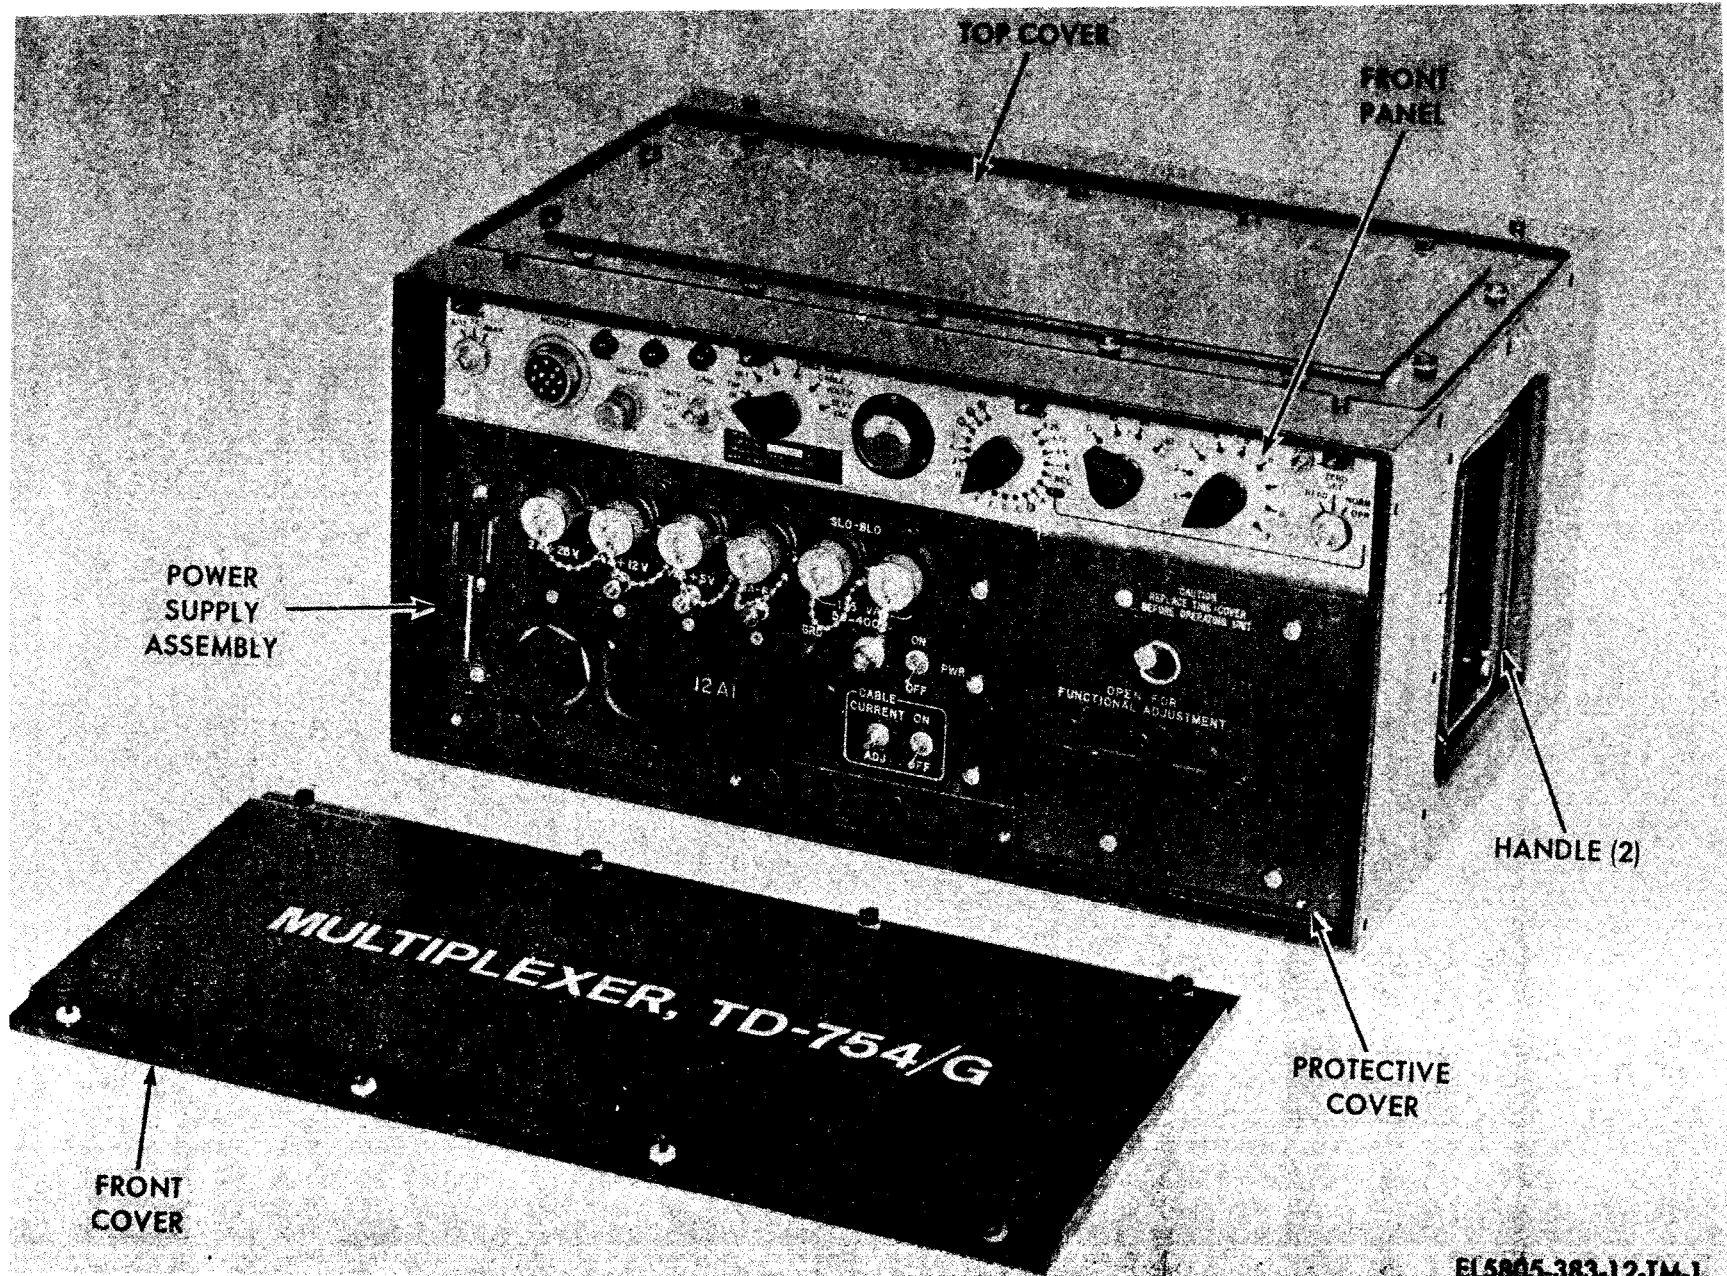

Figure 1-1. Multiplexer TD-754/G.
a. This manual describes Multiplexer TD-754/G (fig. 1-1) and contains instructions for its installation, connection, alignment, operation, maintenance, troubleshooting, repair and adjustment, shipment, and demolition.
b. Front Panel (fig. 1-1). All operator controls and indicators are mounted on the front panel of the TD-754/G and on the front panel of the power supply assembly. A protective cover over the five plug-in panels (12A2 through 12A6), is attached to the front panel by four screws. The protective cover has a hinged adjustment cover that provides access to screwdriver adjustments on the plug-in panels as shown on figure 3-1. The controls, indicators, and fuses are listed and explained in chapter 3.
d. Top Cover (fig. 1-1). The top cover provides access to components mounted in the top of the TD-754/G multiplexer case. The top cover is attached to the case by 14 captive screws.
g. *Power Supply Assembly 12A1* (fig. 1-1). Power supply assembly 12A1 is a plug-in assembly that is secured to the TD-754/G by eight captive screws. There are two multipin connectors on the rear panel of the assembly that mate with two connectors in the case when the assembly is installed.